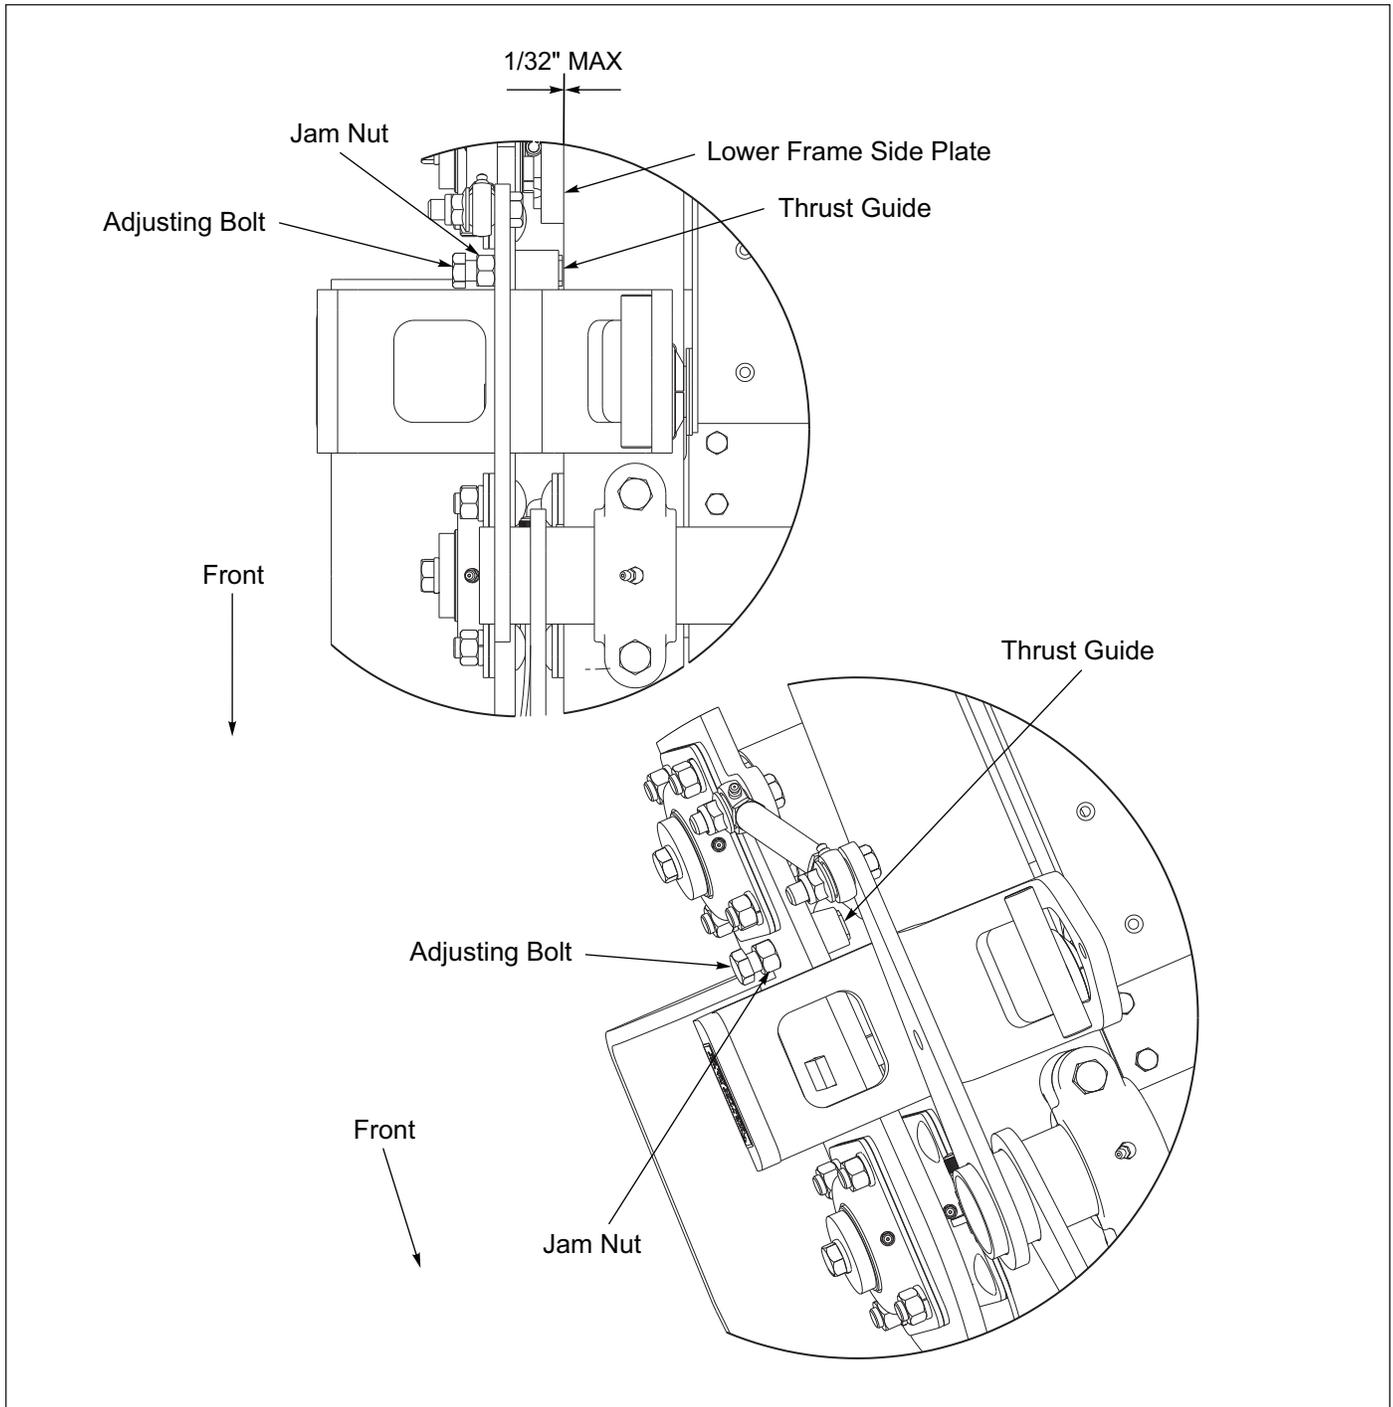

Figure 4-6: Rotor Thrust Guide
2. Retighten Jam Nut. **See Figure 4-6.**